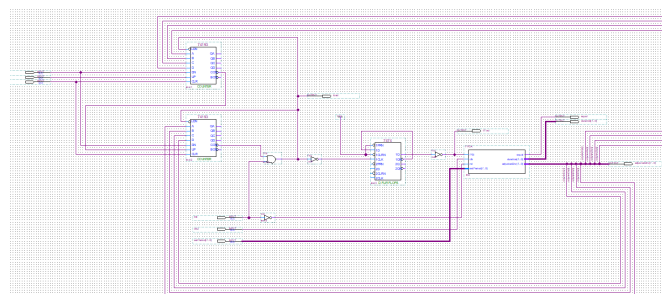

Figure 3
- A clearer picture of Figure3 exists in LAB2/ FrequencyRegulator folder.